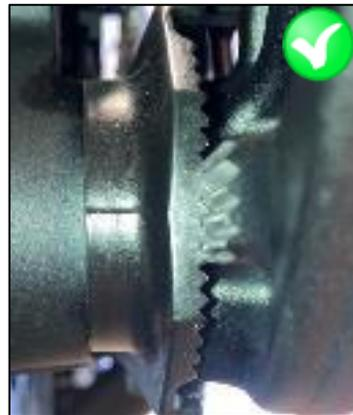

Fig. 2
2. If the alignment of the gear teeth on the license plate carrier (B) and swingarm (C) **is correct** as shown in Fig. 2 then retighten rear wheel axle collar nut to 90 Nm to complete the inspection.